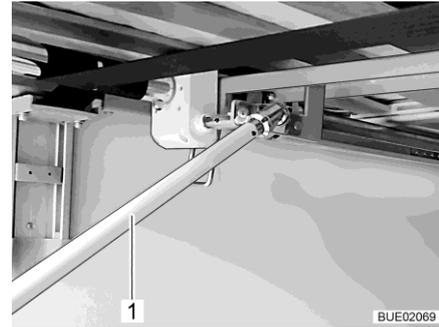

Fig. 137 Crank in the rear garage
- To lift the bed: Turn the crank (Fig. 137,1) clockwise.
To lower the bed: Turn crank (Fig. 137,1) in an anticlockwise direction.